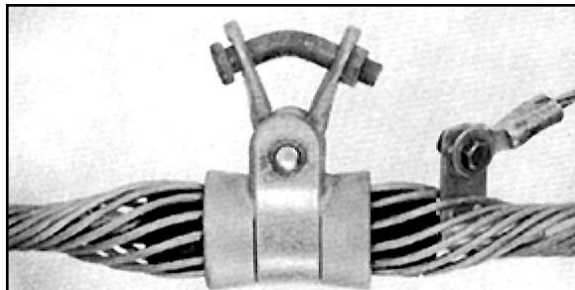

FIGURE 12
- 3.10 Attach bonding strap to current transfer tab using suitable bolt, nut and washer. Check completed application. (Figure 12)